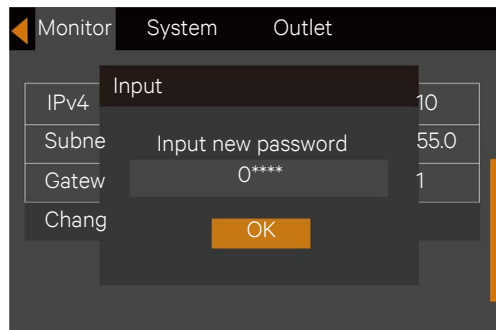

Figure 5-23 Inputting new password
4. Enter the existing password and press the  key to confirm, at this point the system requests the user to enter a new password. See Figure 5-23.